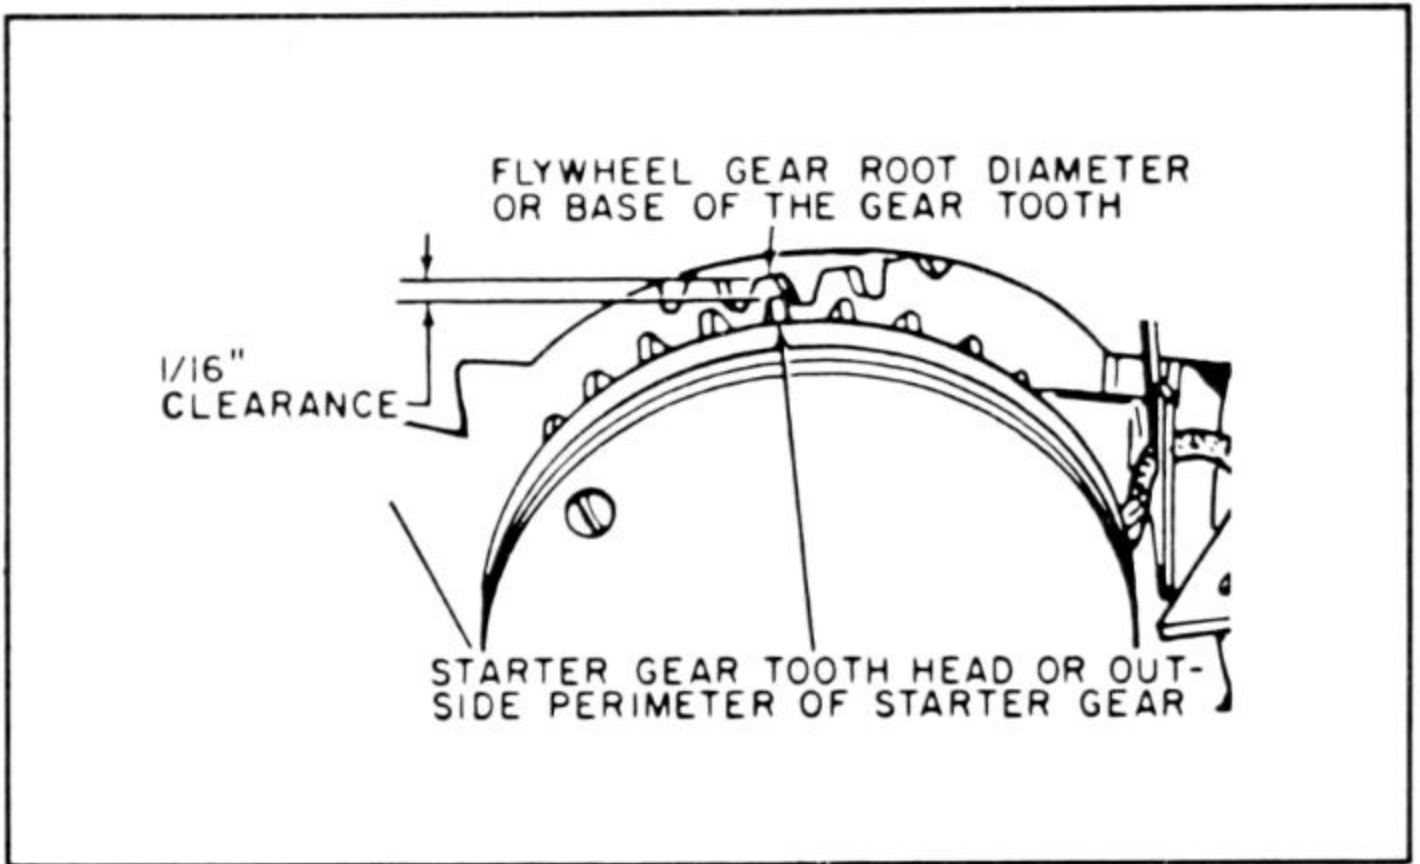

Fig. 4-33. Rope clip and spring loop index to bracket.
8. Mount starter on engine, adjusting bracket for minimum 1/16-inch tooth clearance (Fig. 4-33). Less clearance could prevent disengagement, grenading the starter.